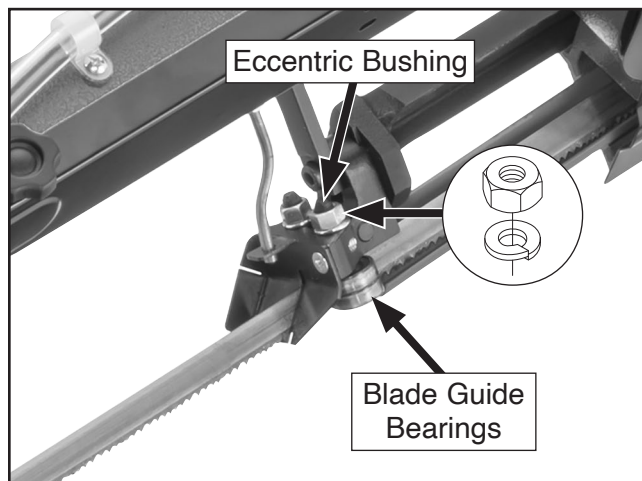
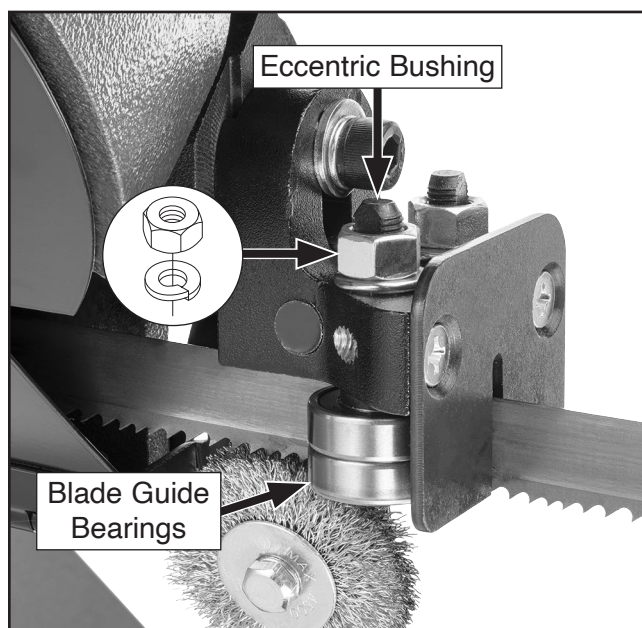

Figure 83. Front blade guide (rear view).
Figure 84. Rear blade guide (rear view).
4. Loosen hex nuts on eccentric bushings of bearings that need adjustment (see **Figure 83—Figure 84**).